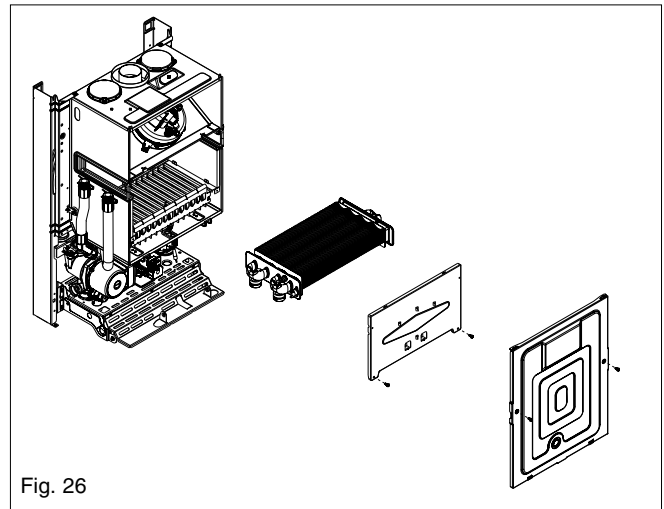

Fig. 26
6.13 MAIN HEAT EXCHANGER (fig. 26)